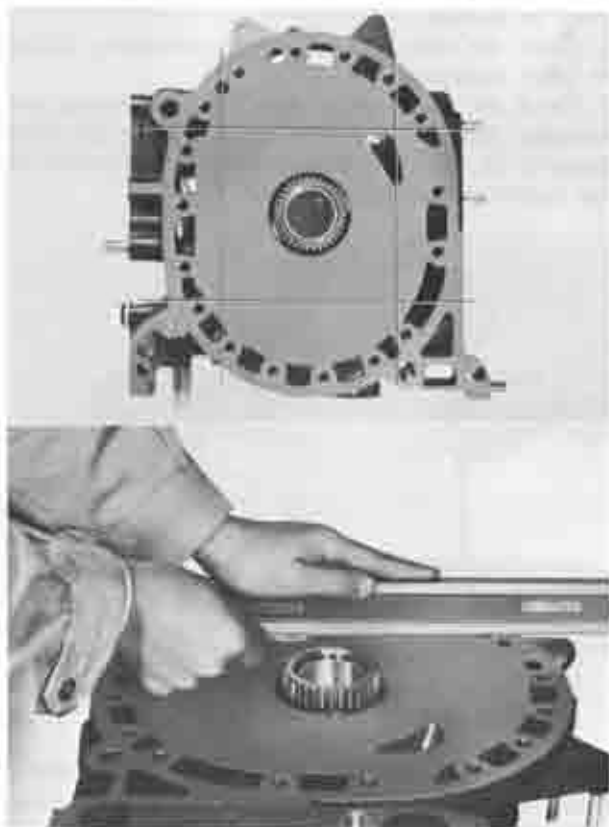

Fig. 1-27 Checking distortion
3. Check for housing distortion by placing a straight edge on the housing surface. Measure the clearance between the straight edge and the housing surface with a feeler gauge, as shown in Fig. 1-27. If the distortion exceeds 0.04 mm (0.0016 in), reface or replace the housing.